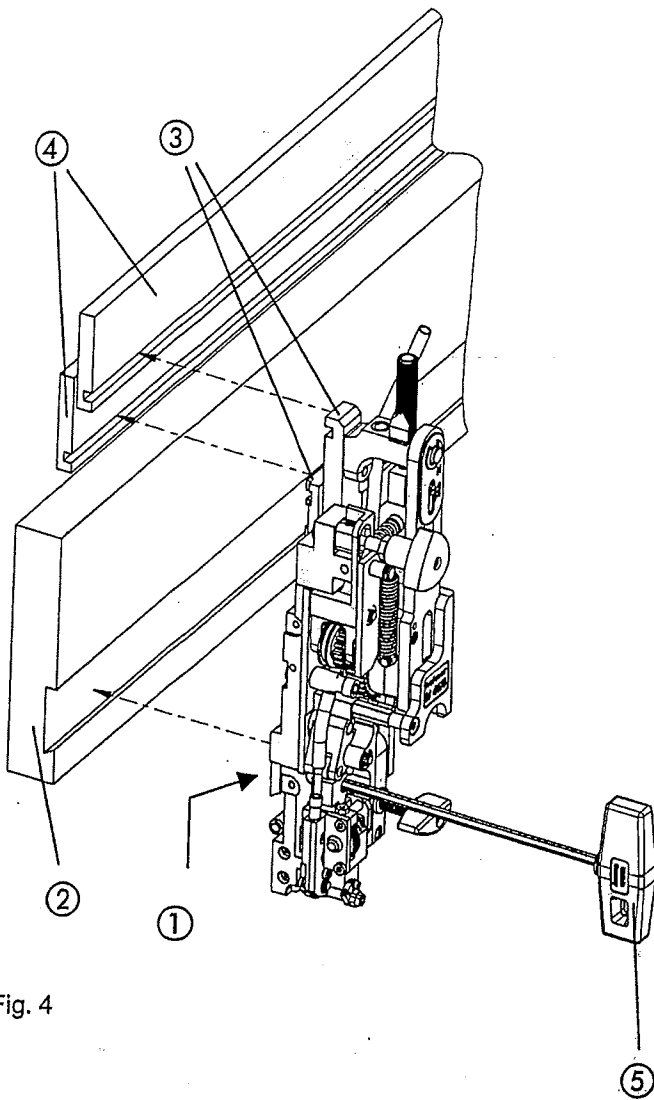

Fig. 4
- Fig. 4 -
- Fix stitching head in stitching head mounting by tightening the tenon block ① with the Allen key.
- Fig. 4, -